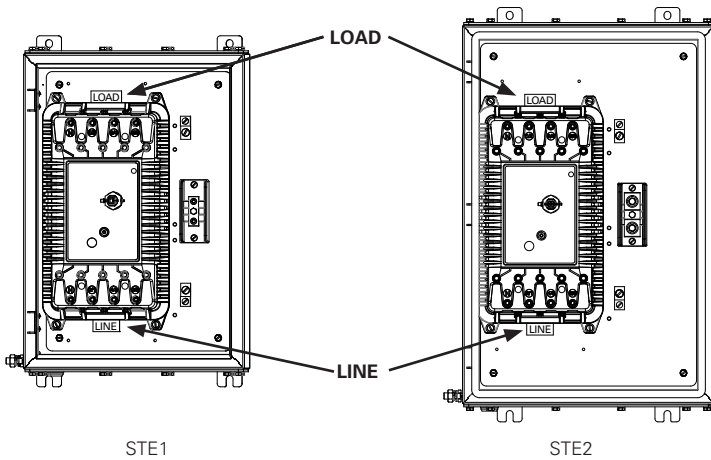

Figure 3 – Internal layout
- Connect main power directly to line side (Bottom) of the Main Breaker. Outgoing power wires should be connected to the load side (Top) of the Main Breaker (see Figure 3). Ensure terminals are tightened to torque values found in torque requirement table (under Technical Data section).